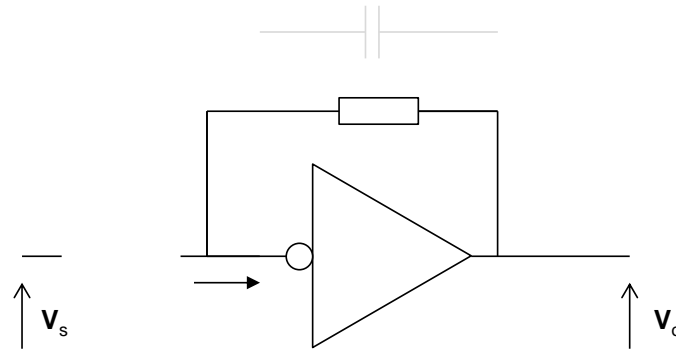

Fig 18: Inverting amplifier DC analysis
Step 1: Remove the capacitors. The DC circuit then consists of the amplifier and the feedback network, as shown in Fig 18.